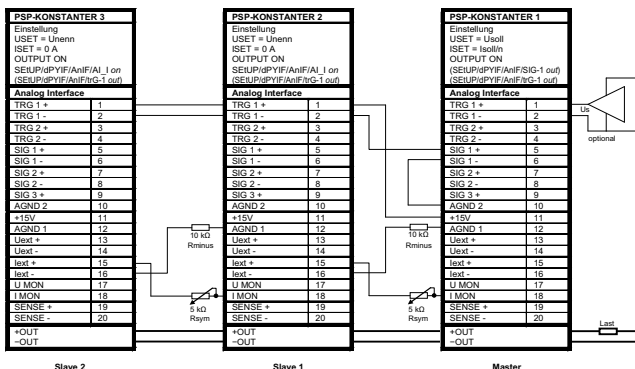

Figure 7.9.2 Wiring for Master-Slave Parallel Connection
- Connect master and slave devices as shown in figure 7.9.2.
- In order to assure that the slaves' OUTPUT ON status is activated along with the master's OUTPUT ON status via the signal output and trigger input circuit as shown in figure 7.9.2, "SETUP/dPYIF/AnIF/SiG-(x1) out" must be selected at the master and "SETUP/dPYIF/AnIF/trG-(x2) out" must be selected at the slaves, (x1) and (x2) in example 1. The master's OUTPUT ON status can be optionally controlled via the trigger input – setting at the master: "SETUP/dPYIF/AnIF/trG-(x3) out", (x3) in example 1.